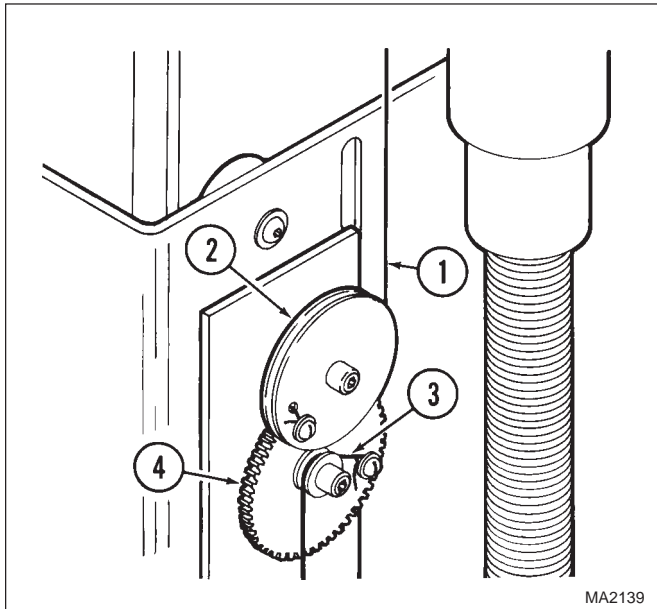

Figure 4-13. Cable Routing
- (15) Feed cable assembly (1, Figure 4-13) onto base capstan (2) as shown. If necessary, feed cable/turnbuckle assembly (3) onto base output gear (4) as shown.
- (16) Raise bellows assembly (Refer to para 4-3).
- (17) If removed, install the back cover (Refer to para 4-2).
- (18) Perform a PC control board calibration (Refer to para 4-33).
- (19) Install electrical cover (Refer to para 4-4).